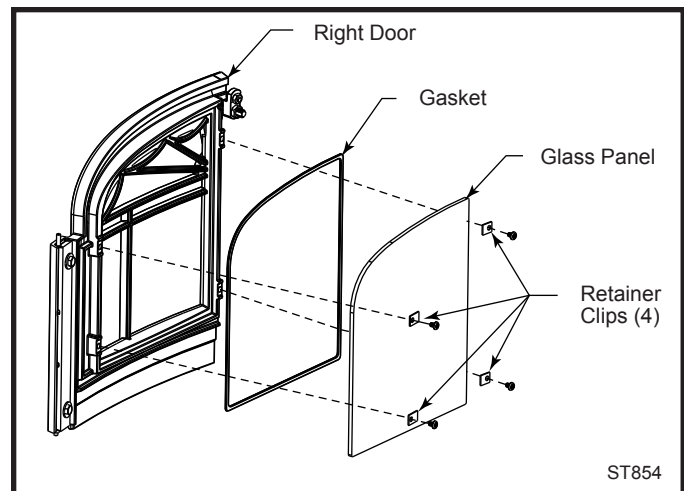

Fig. 41 Exploded view of the glass assembly for the right door.
2. Secure the glass on both doors with the retainer clips. Tighten all screws. (Fig. 41)